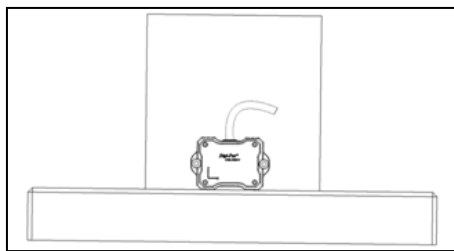

Figure 1. Tilt Sensor Module Position of Calibration Step 1
3. Locate the sensor module as following Figure 1. The sensor is ready for user to perform calibration step 1.
10. For DWL5500XY model, please perform only 4 steps calibration as shown in Figure 1, 2, 7, 8. The sensor module will automatically change to dual axis mode and broadcast dual axis angle measurement (Please refer to 1.4.2 Dual Axis Mode) after the calibration process is completed.